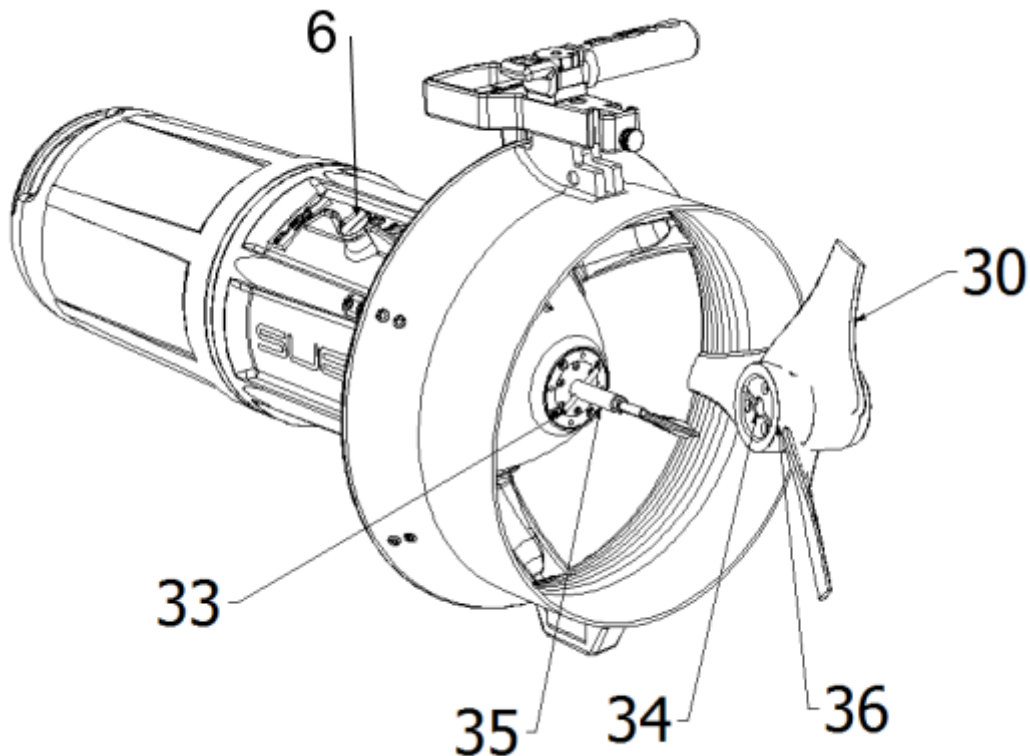

Fig.6 - Insertion of the propeller
Insert the motor shaft of the Scooter (35 - Fig.6) in the hole of the propeller (36), turn the propeller (clockwise) until the pin (33) matches the seat (34) propeller. When you hear a click, the propeller will stop turning. Continue by turning (CLOCKWISE) the switch (6) with the finger only, WITHOUT FORCING.